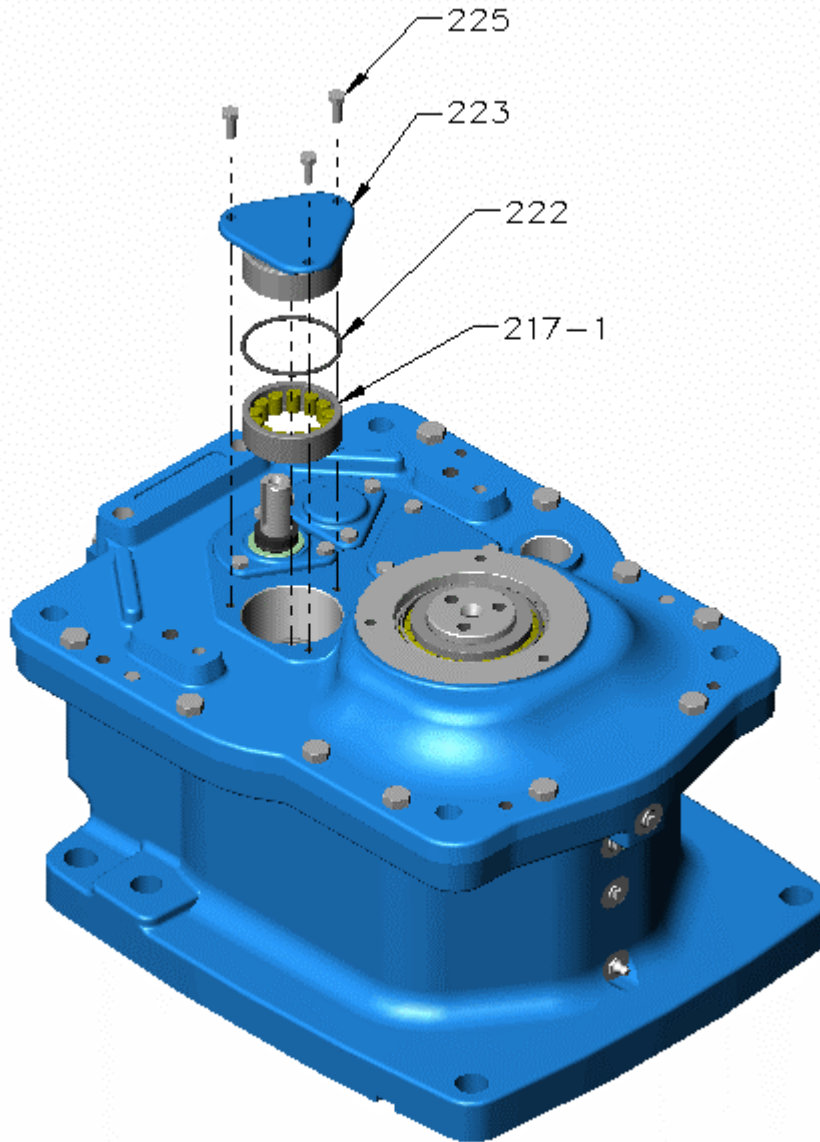

Figure 19 – Intermediate Cap
- S. At intermediate shaft, install following items (refer Figure 19):